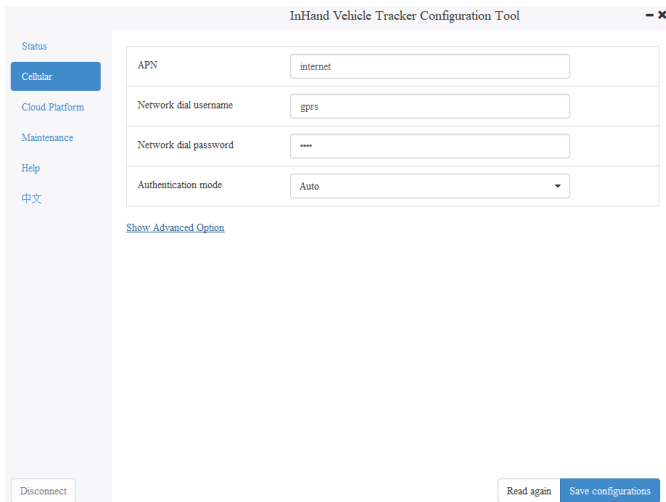

Figure 5-1
(5) Configuring the Cellular Network
Step 1: Click **Cellular** in the left-side navigation pane to access the configuration page. Typically, you only need to set the **APN**, **Network dial username**, **Network dial password**, and **Authentication mode** parameters and click **Save configurations**. The configurations take effect after the device is restarted. Figure 5-1 shows the configuration page.